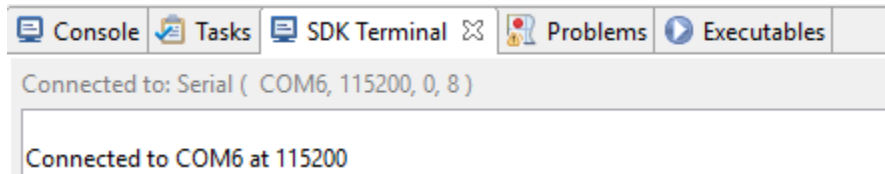

Figure 34: Terminal connection verification.
14. Verify the Terminal connection by checking the status at the top of the tab (Figure 34).